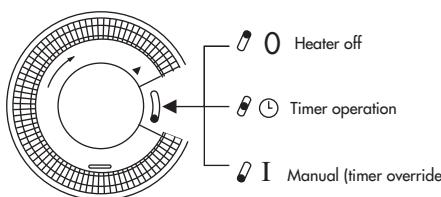

fig.4
If you wish to use the timer, position the switch in the middle position (L). (Fig. 4).
NOTE: if the timer switch is at the 0 position (fig.4), the heater is off and will not operate).